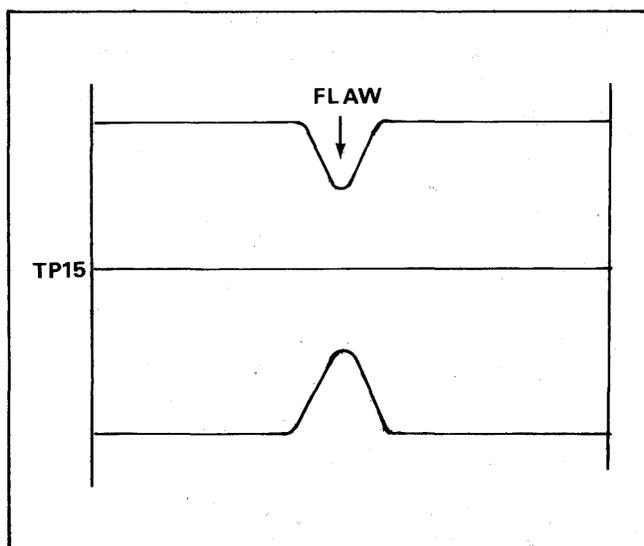

Figure 5-9. Disk Flaw
The waveform seen over 1 complete revolution (40ms) is known as the envelope. An obvious flaw would appear as a dip in the envelope. See figure 5-9.
- e. Insert head insertion/removal tool in place on upper head assembly. Figure 5-9.
- j. Loosen the two (2) hold down screws securing the mask assembly.